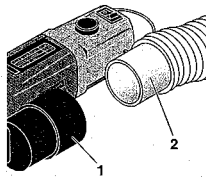

Fig. 7
1. Connect parts of the connection adapter 1 (Fig. 7).